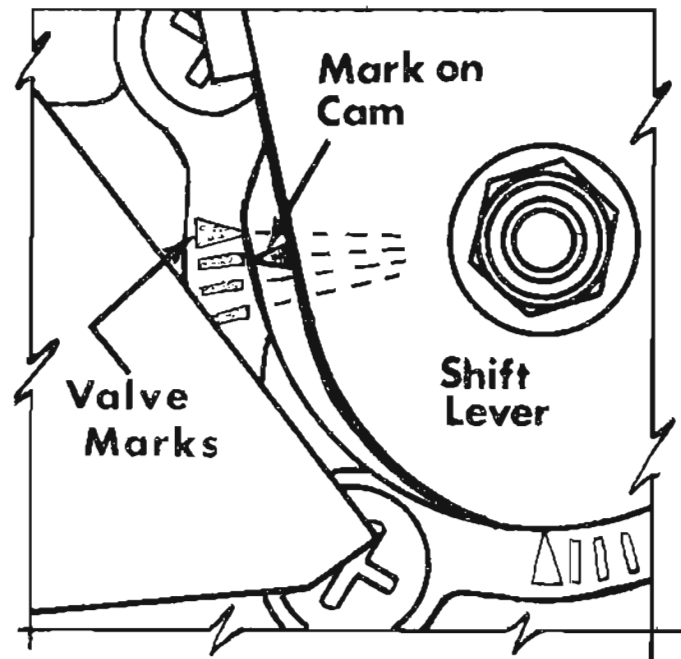

Figure 2. Reverse Lock Valve Adjustment
*NOTE: If the unit will not hold in reverse, move cam one mark at a time and retest boat until unit holds in reverse. Refer to Figure 2.*